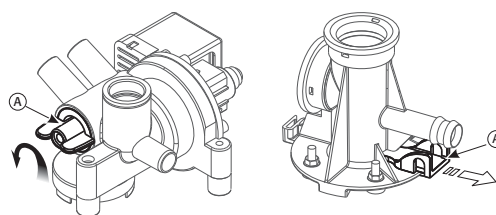

Fig. 9.e
- activate the mechanical device under the cylinder (see part A, Fig. 9.e).